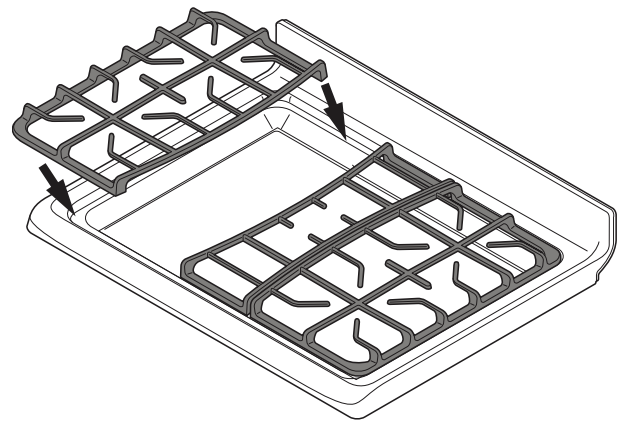

Figure 6: Proper grate installation
- Make sure the burner grates are properly placed on the cooktop before using the surface burners (Figure 6). The grates are designed to rest inside the recess on the cooktop.